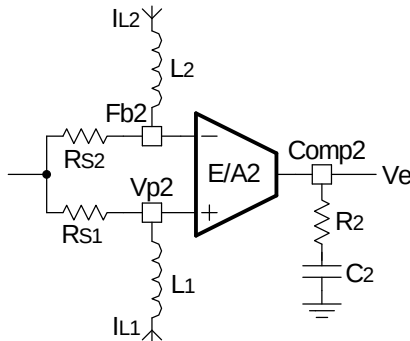

Fig. 23: The Compensation network for current loop
As shown the $G(s)$ is a function of inductor current. The transfer function for compensation network is given by equation (21), when using a series RC circuit as shown in Fig 23.